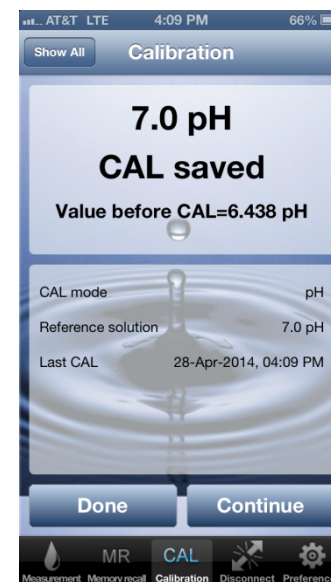

Figure 34
- Cal Value Field will display the message, **"7.0 pH CAL Saved"** (See Figure 34) along with: